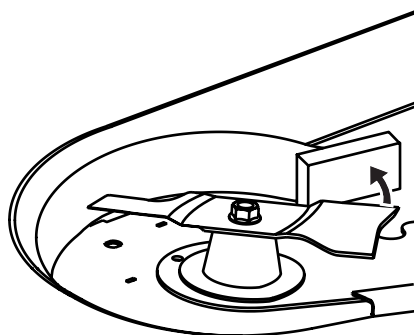

Figure 4-24
1. Secure the blade from turning counter-clockwise during service by placing a block of wood between the blade and the deck housing, see Figure 4-24, or wrap a rag around one end of the blade and wear heavy gloves to grasp the blade firmly.